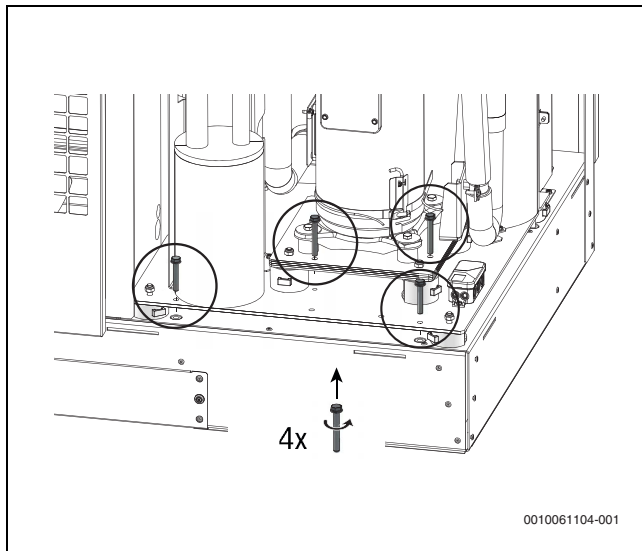

Fig. 40 Removing the screws and transport fittings
- After transport, remove the 6 screws and pull out the corresponding transport fittings → Fig. 40, 41, 42, 43, page 23.